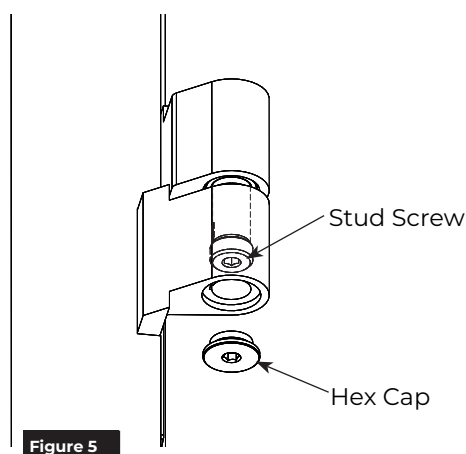

Figure 5
2. Remove hex cap from bottom of intermediate pivot. (Figure 5)
3. Turn stud screw clockwise to raise the door to desired height. (Figure 5)
5. Turn stud screw counter clockwise until door rests on shims. (Figure 5)
8. Replace hex cap of intermediate pivot. (Figure 5)